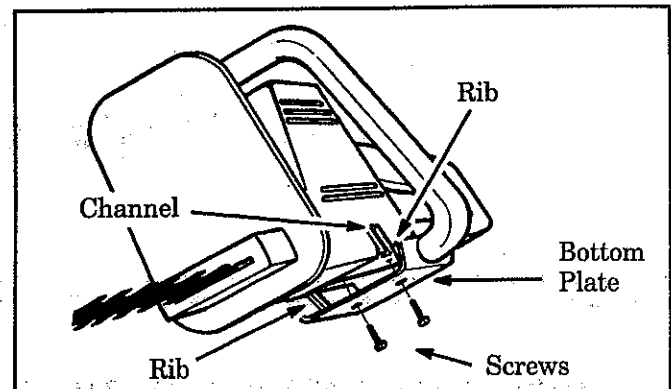

Figure 3
2. Insert the ribs on the inside of the bottom plate into the channels on each side of the motor housing. Figure 3.
3. Insert the screws as shown in Figure 3. Tighten securely.